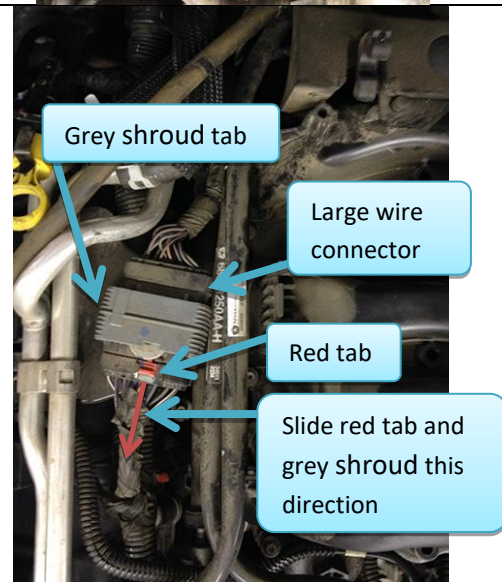

Figure 8: Large wire connector.
7. Disconnect large wire connector on passenger side of intake (Figure 8)